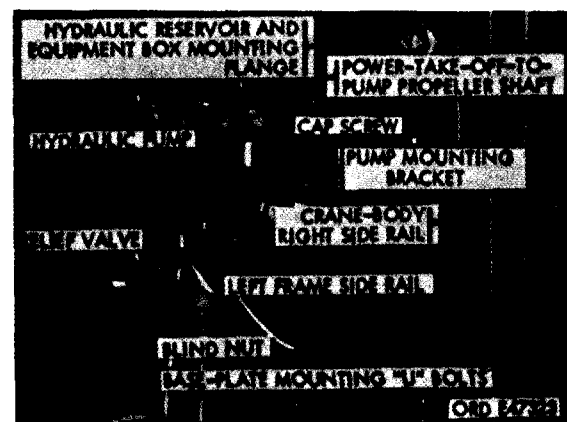
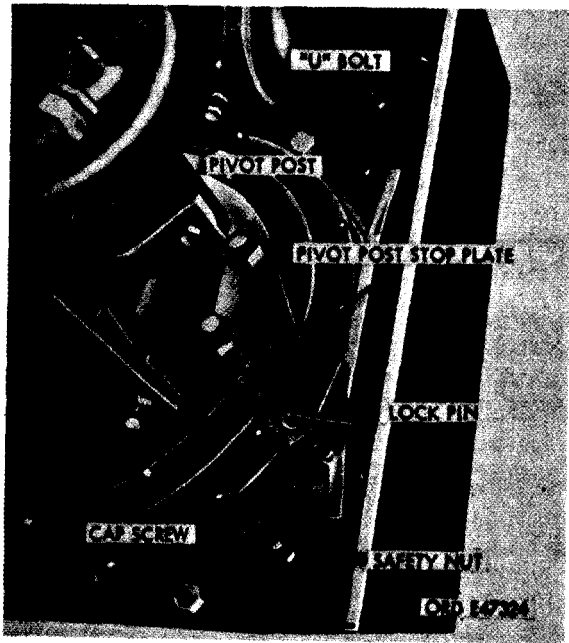
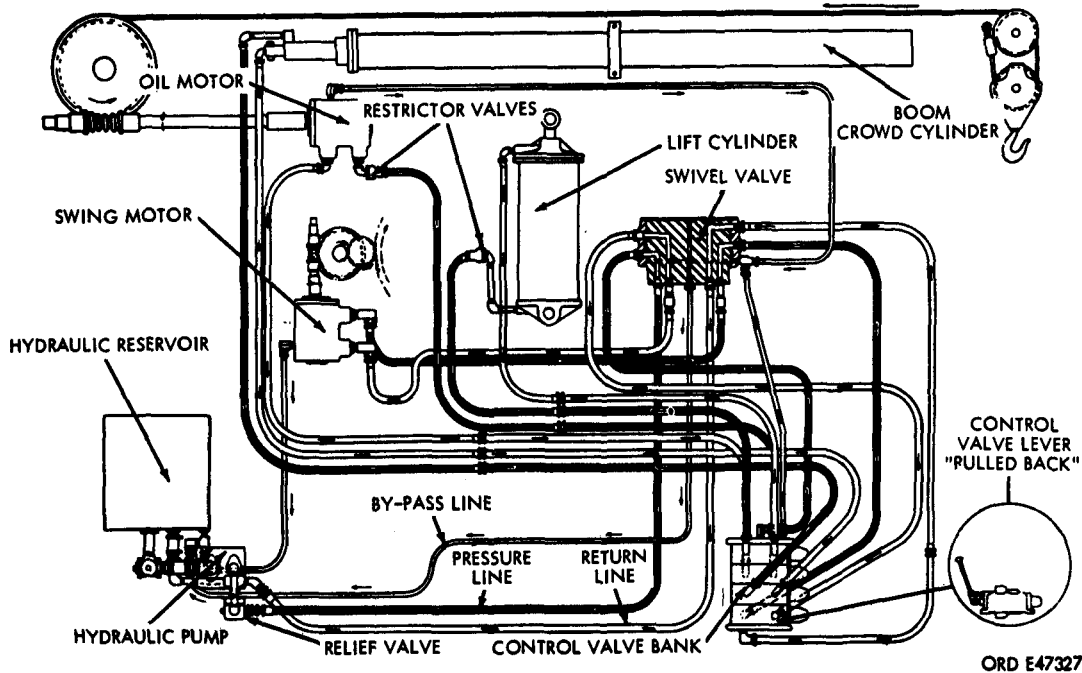
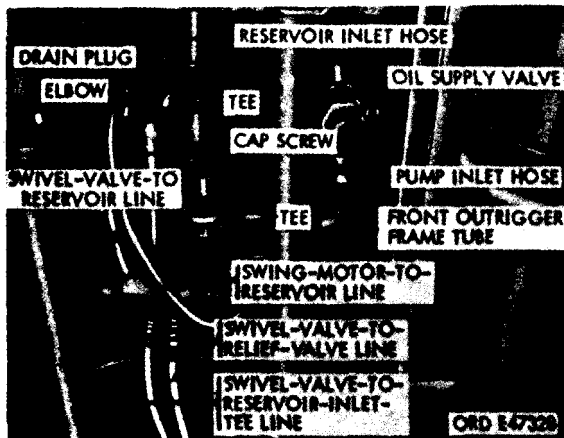

Figure 534. Bottom view of hydraulic pump and relief valve assembly installed M246
Figure 535. Lower section of crane pivot post and base plate (M246) - left rear view
Figure 538. Crane hydraulic system M246
Figure 539. Front bottom view of hydraulic pump and relief valve assembly installed M246
b. Hydraulic Pump and Relief Valve Assembly. The flange-mounted vane-type hydraulic pump (fig. 534) is bolted to a bracket attached to the underside of the rear outrigger frame tube. The pump is driven by a propeller shaft (fig. 534) extending from the power takeoff on the rear of the transfer to the pump input shaft. The adjustable relief valve (fig. 534) is connected to the hydraulic pump outlet port. The purpose of this valve is to protect the crane hydraulic system from excessive (above 1200 psi) pump pressures.
c. Base Plate and Pivot Post Assembly. The base plate and pivot post assembly, as referred to in this paragraph, consists of the crane base plate (fig. 535), pivot post, shipper support, swivel valve (fig. 401), and operator's cab and control valve bank assembly (fig. 401). The combined weight of these units is approximately 3920 pounds. The base plate is bolted to both the crane body and to the truck frame. The pivot post, which is hollow, is internally supported at the top and bottom by tapered roller bearings, which are installed on a tubular support member attached to the base plate. The pivot post support cap (fig. 402), bolted to the top of the pivot post support, anchors the pivot post to the support while permitting the pivot post to rotate freely on its vertical axis. The shipper support, on which the boom and shipper assembly (**f** below) are pivoted, is bolted to mounting bosses cast on the sides of the pivot post. For description of the swivel
flange of the crane-body side rails (fig. 534) and into tapped blocks welded to the top side of the hydraulic-reservoir-and-equipment-box mounting flanges. Weight of the reservoir and equipment box is 185 pounds.
n. Hydraulic System. The wrecker crane hydraulic system (fig. 538) is completely sealed except for the breather-type reservoir filler cap. A bayonet-type oil level gage attached to a square-head pipe plug is installed in the top of the reservoir.
- (1) Disconnect swivel-valve-to-relief-valve line (fig. 539) from relief valve outlet port.
- (2) Disconnect swivel-valve-to-reservoir-inlet-tee line (fig. 539) from tee at relief valve.
- (3) Loosen two hose clamps securing reservoir inlet hose (fig. 539) to sleeve on bottom of reservoir, and remove hose from sleeve.
- (4) Loosen two hose clamps securing pump inlet hose (fig. 539) to oil supply valve outlet port.
- (5) Remove power takeoff-to-pump propeller shaft (fig. 534) from pump propeller shaft (TM 9-2320-211-20).
- (6) Remove six cap screws (fig. 534) and lockwashers securing pump-to-pump-mounting bracket, pull pump from bracket, sliding pump inlet hose (fig. 539) from oil supply valve outlet port, and remove hydraulic pump and relief valve assembly from vehicle.
- (7) Remove reservoir-to-pump piping from pump inlet port.
- (8) Remove pump-to-relief-valve piping from pump outlet port.
- (9) Remove pump-to-relief-valve piping from relief valve inlet port.
- (10) Remove relief-valve-to-reservoir piping from relief valve outlet port.
- (4) Install reservoir-to-pump piping in pump inlet port.
- (5) Position pump and relief valve assembly under front outrigger frame tube, and secure pump (fig. 539) to pump mounting bracket with six cap screws and lockwashers. Tighten cap screws.
- (6) Install power-takeoff-to-pump propeller shaft (fig. 534) on pump drive shaft (TM 9-2320-211-20).
- (7) Connect swivel-valve-to-reservoir-inlet-tee line (fig. 539) to tee at relief valve.
- (8) Connect swivel-valve-to-relief-valve line (fig. 539) to relief valve outlet port.
- (9) Install reservoir inlet hose (fig. 539) on sleeve at bottom of reservoir, and tighten the two hose clamps.
- (10) Install pump inlet hose (fig. 539) on oil supply valve outlet port, and tighten the two hose clamps. Open oil supply valve.
- (4) Remove 16 safety nuts (fig. 535) from 8 U-bolts securing base plate to crane body side rails and truck frame side rails.
- (5) Remove four cap screws (fig. 535) and lockwashers securing base plate to crane body.
- (6) Disconnect floodlight cable at bayonet-type connector clipped to top of frame cross member under crane base plate.
- (7) Disconnect swivel-valve-to-relief-valve line (fig. 538) from relief valve outlet port.
- (8) Disconnect swivel-valve-to-reservoir-inlet-tee line (fig. 539) from tee at relief valve.
- (9) Disconnect swivel-valve-to-reservoir line (fig. 538) from tee on bottom of reservoir.
- (1) Using overhead hoisting equipment, lift base plate and pivot post assembly into position on crane body, guiding base plate mounting U-bolts (fig. 534) through holes in base plate. Remove hoisting equipment.
- (2) Connect swivel-valve-to-reservoir line (fig. 539) to tee on bottom of reservoir.
- (3) Connect swivel-valve-to-reservoir-inlet-tee line (fig. 539) to tee at relief valve.